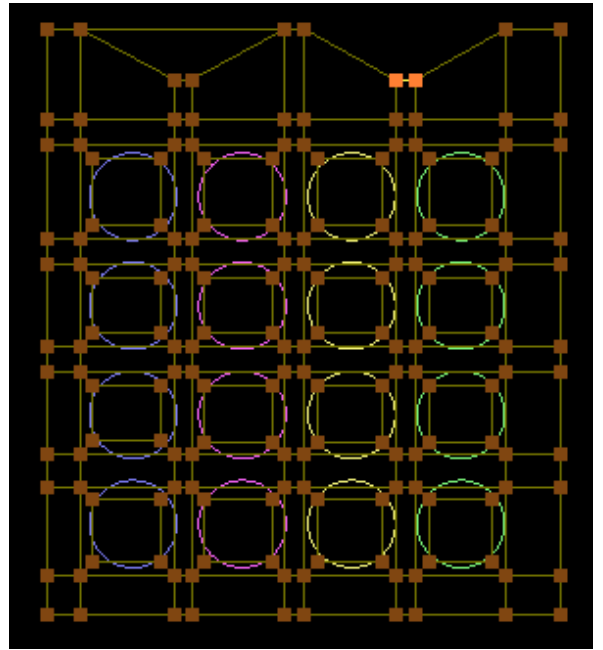

Figure 31.2
- Group fit the cut-plane and move the corners down as shown in figure 31.2.